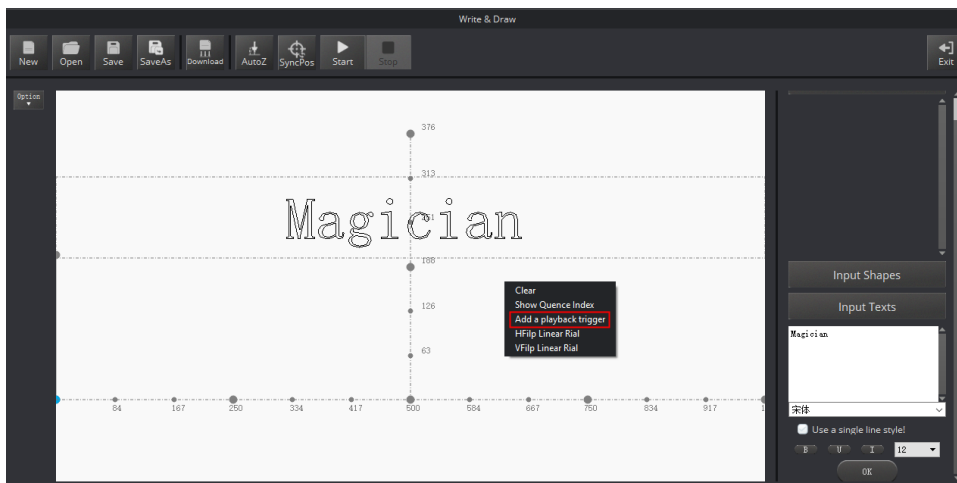

Figure 5.201 Set trigger point
Step 7 (Optional) Right-click **Add a playback trigger** on the **Write&Draw** page to set trigger points, as shown in Figure 5.201.